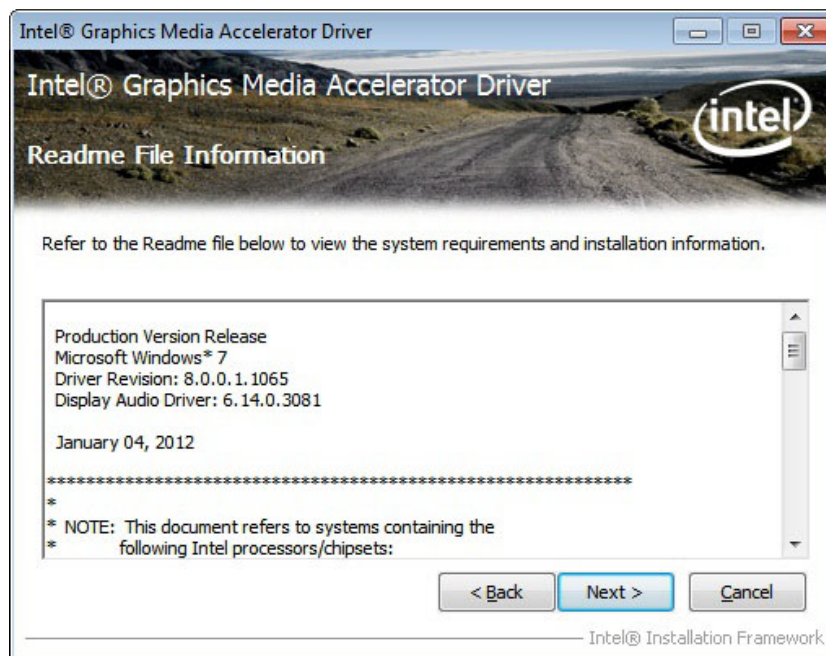

Figure 7-9: VGA Driver Read Me File
Step 9: The Read Me file in Figure 7-9 appears.